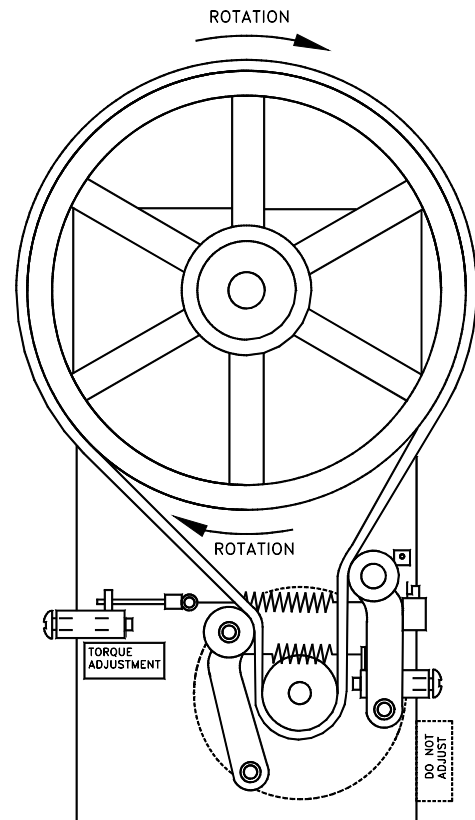

Fig. 22
2. Using a regular straight flat blade screwdriver, turn the mechanical consistency (torque adjustment) screw (Fig. 22) clockwise to make the product harder or counterclockwise to make the product softer. Do not adjust more than one turn each time.